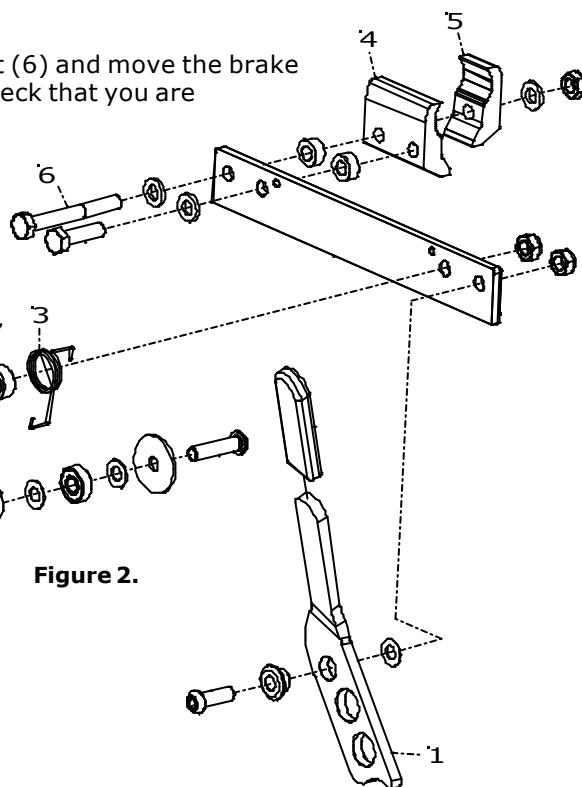
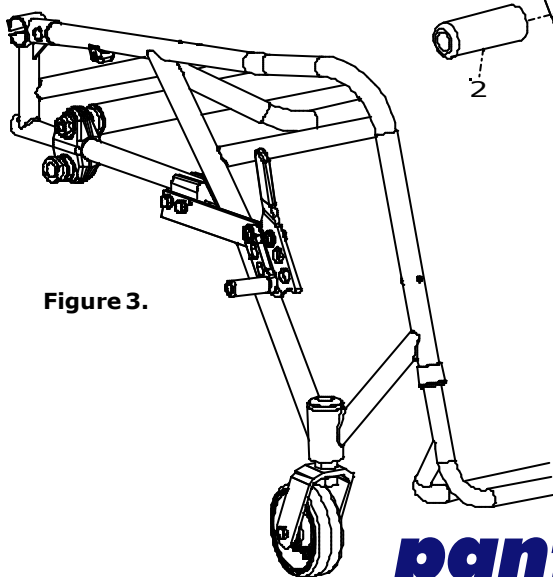

Figure 2.
Figure 3.
2. Loosen the bolt slightly with the socket head (6) (figure 2) to enable you to place the brake clamps (4 and 5) round the seat tubing on the wheelchair. (See figure 3).
3. Then try tightening the bolt (6) and move the brake handle (1) forward to brake. The brakes should be adjusted so that they sink into the tyres by around 5mm when in locked position.
- If you feel that the brakes are too loose, push the brake handle backwards and loosen the bolt (6) moving the brake back slightly. Screw in the bolt securely and check that you are satisfied with the brakes.
- If you feel the brakes are too stiff, loosen the bolt (6) and move the brake forwards slightly. Screw in the bolt securely and check that you are satisfied with the brakes.
4. Make sure that the brake locking block (2) is positioned as straight as possible against the rear wheel for the best possible braking effect.